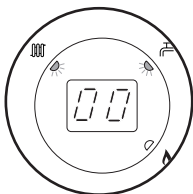

Fig. 105
7. The display will show '00', indicating maximum rate, then revert to 'P' alternating with the current boiler temperature (Figs 105, 106 & 107).